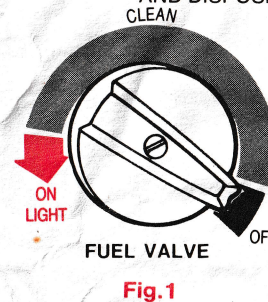

Fig. 1
7. Turn FUEL VALVE to position shown in Fig. 1. (Note flat area).
1. Turn FUEL VALVE to "OFF". (Fig. 1)